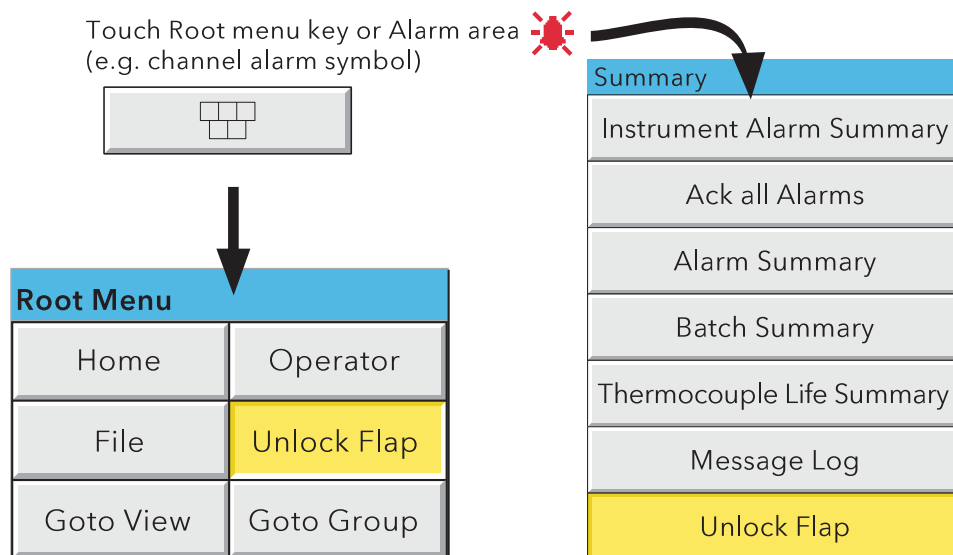

Figure 2.4.1a Unlock Flap key locations
2. Touch the 'Unlock Flap' key (figure 2.4.1a).